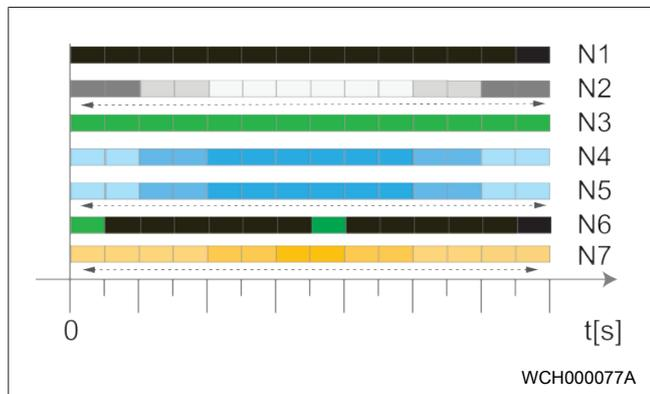

Fig. 11
- White chase light running up and down. See Fig. 11 operating status N2.